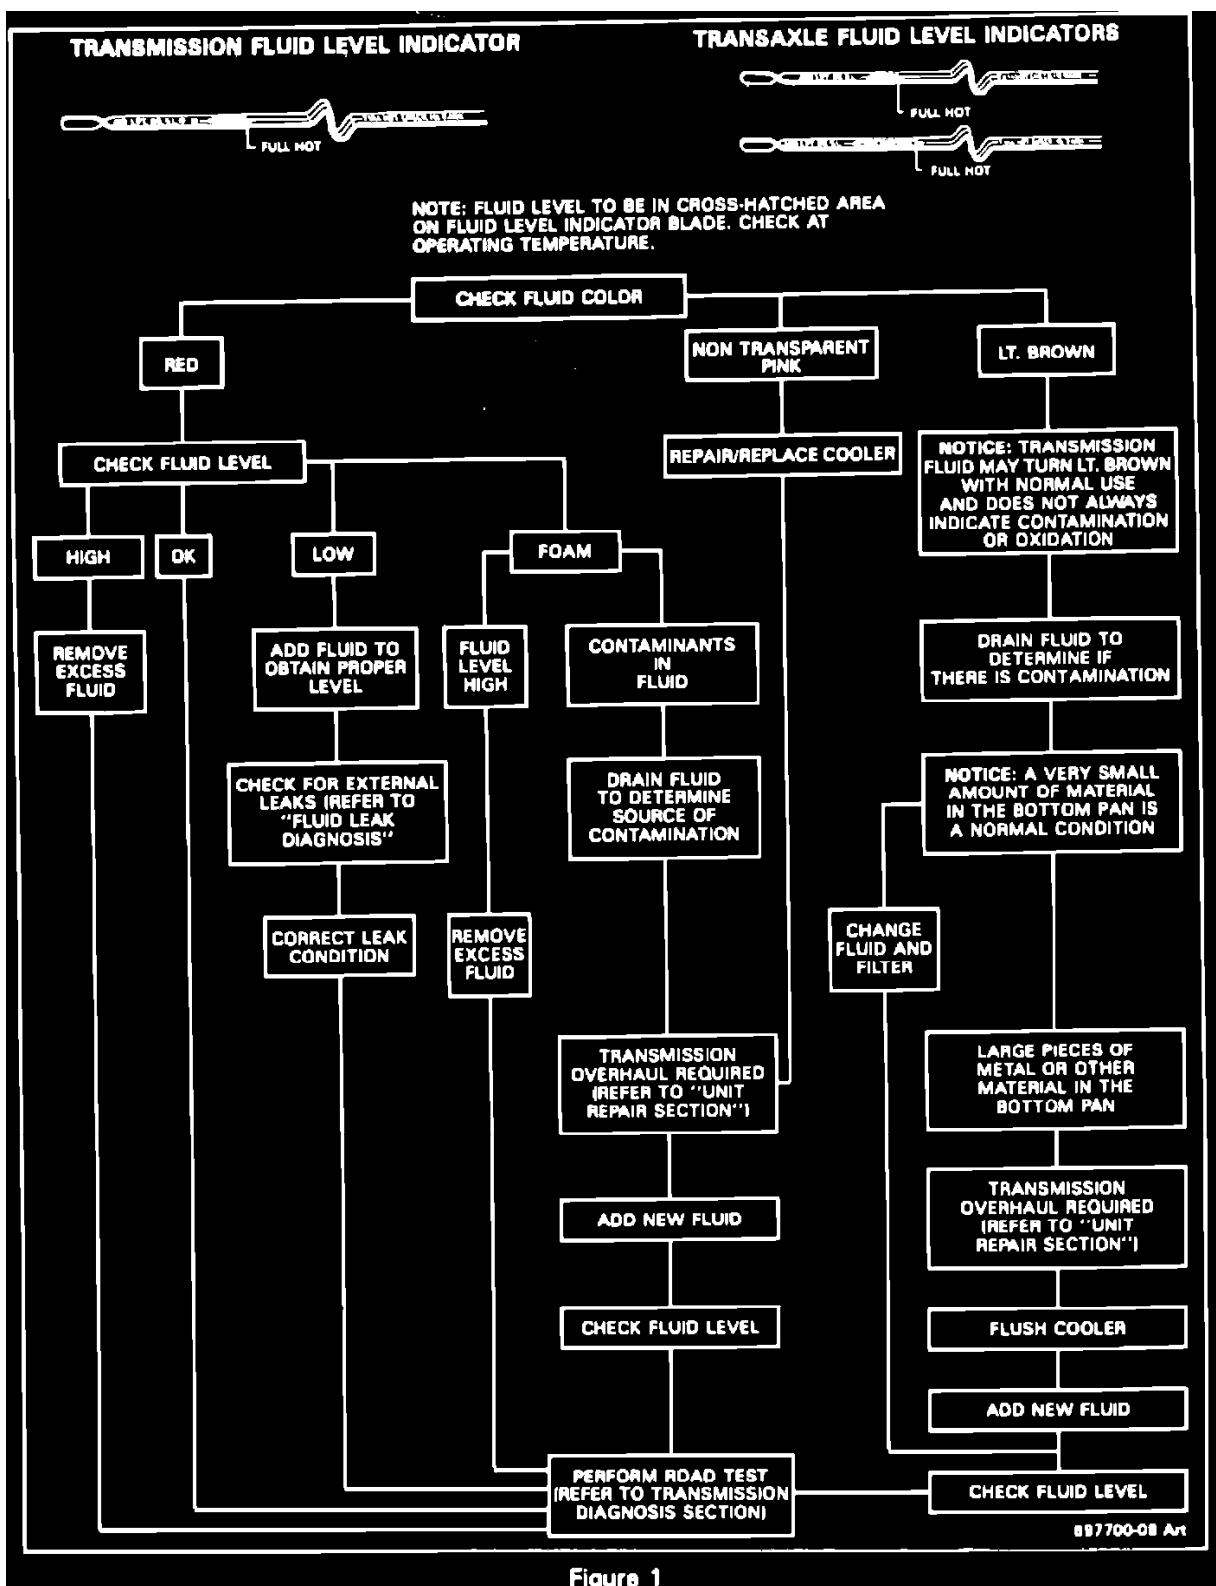

Figure 1
6. Check fluid level, color and condition (refer to Figure 1).